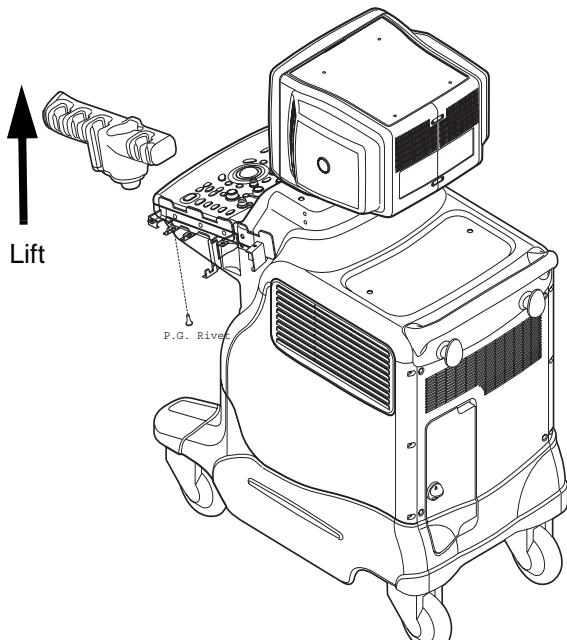

Figure 8-22 PROBE HOLDER DISASSEMBLY
- 2.) Lift the Probe Holder from the Bracket. Refer to Figure 8-22.